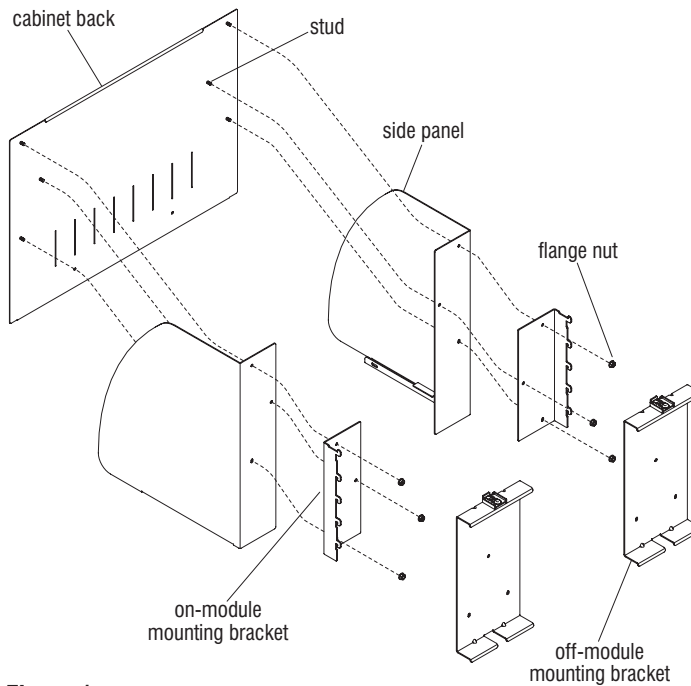

Figure 1
1. Assemble the shelf back, side panels and mounting brackets (off-module or on-module) together by inserting the holes in the side panels (with support flanges facing inward) and mounting brackets through the studs on the shelf back. Loosely fasten the parts together with six flange nuts as shown. To avoid scratching side panels during shelf assembly (step two), do not tighten flange nuts at this time (Figure 1).